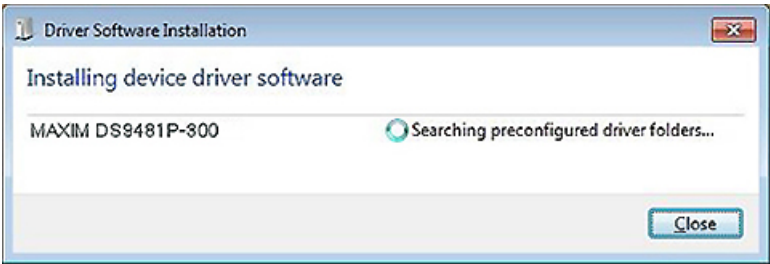

Figure 7. Device Driver Successfully Installed
- 11) The device will automatically search and install the driver (Figure 7).